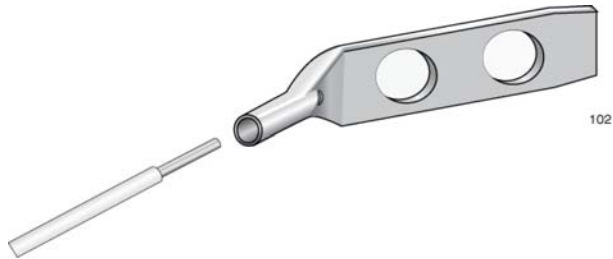

Figure 39. Attaching the Grounding Wire to the Grounding Lug
3. Insert one end of the grounding wire into the grounding lug, as shown in Figure 39, and use a crimping tool to secure the wire to the grounding lug.